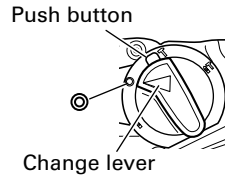

Fig. 13
- (1) Mount the bull point or cold chisel.
- (2) Press the push button and set the change lever to **⊙** mark. (Fig. 13)